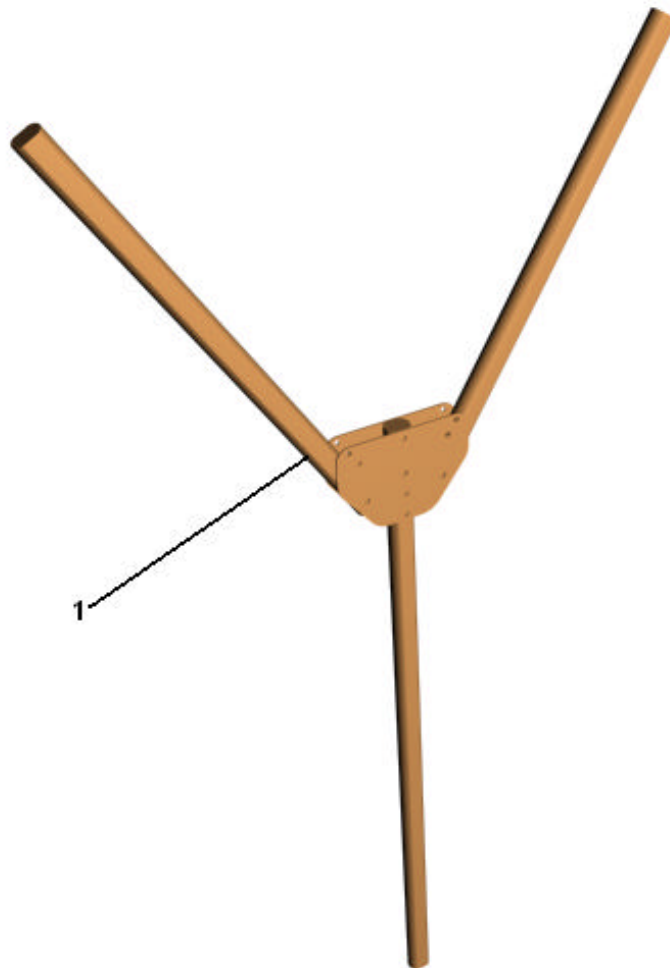

Figure 6. Tent Pole (Y)
|                    |                    |                  |              |                       | Figure 6. Tent Pole (Y)                        |               |